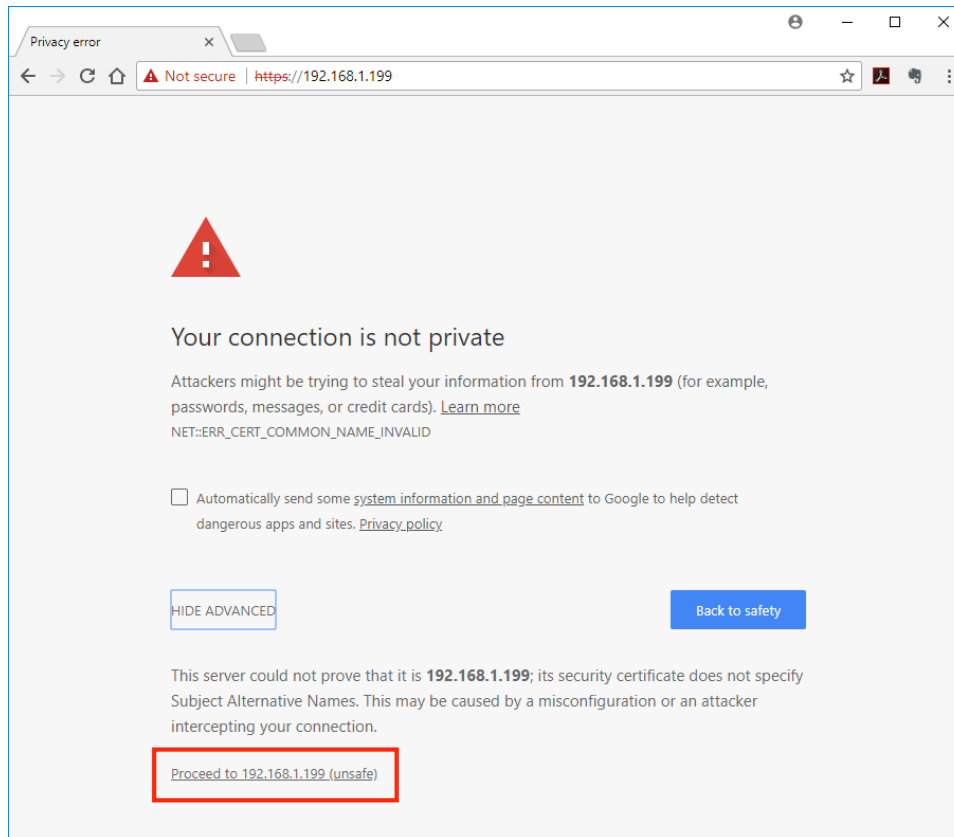

Figure 13a
2. Verify the connection and that IIS is installed correctly by opening a web browser and browsing to the IP address entered in Step 1. Since MSM Enterprise uses a self-signed certificate, the browser may give a warning that the connection is not private. Ignore the warning and proceed to the address. (Figures 13a and 13b)